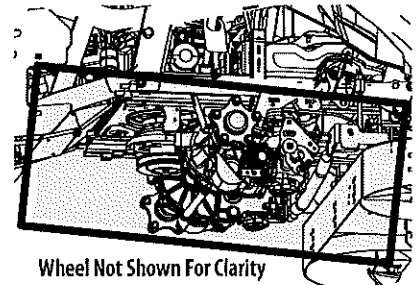

Figure 37
- Clean around and near the transmission, axle and the fan area. See Figure 37.